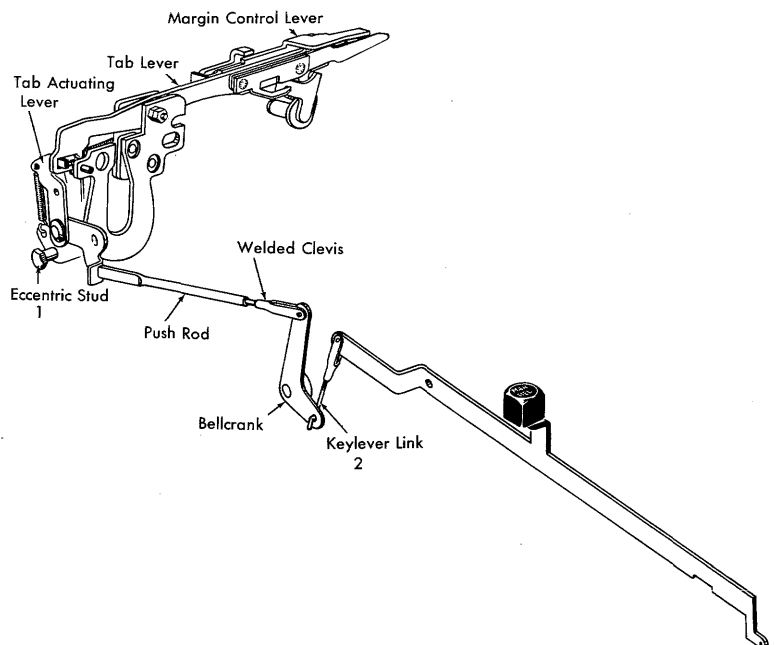

Figure 38. Margin Release Adjustment
1. Adjust the eccentric stud under the tab actuating lever so that the margin control lever clears the bottom of the margin rack by .010"-.015" (Figure 38).
2. Adjust the margin release key-lever link as long as possible, still keeping the bellcrank from rubbing on the power roll (Figure 38).